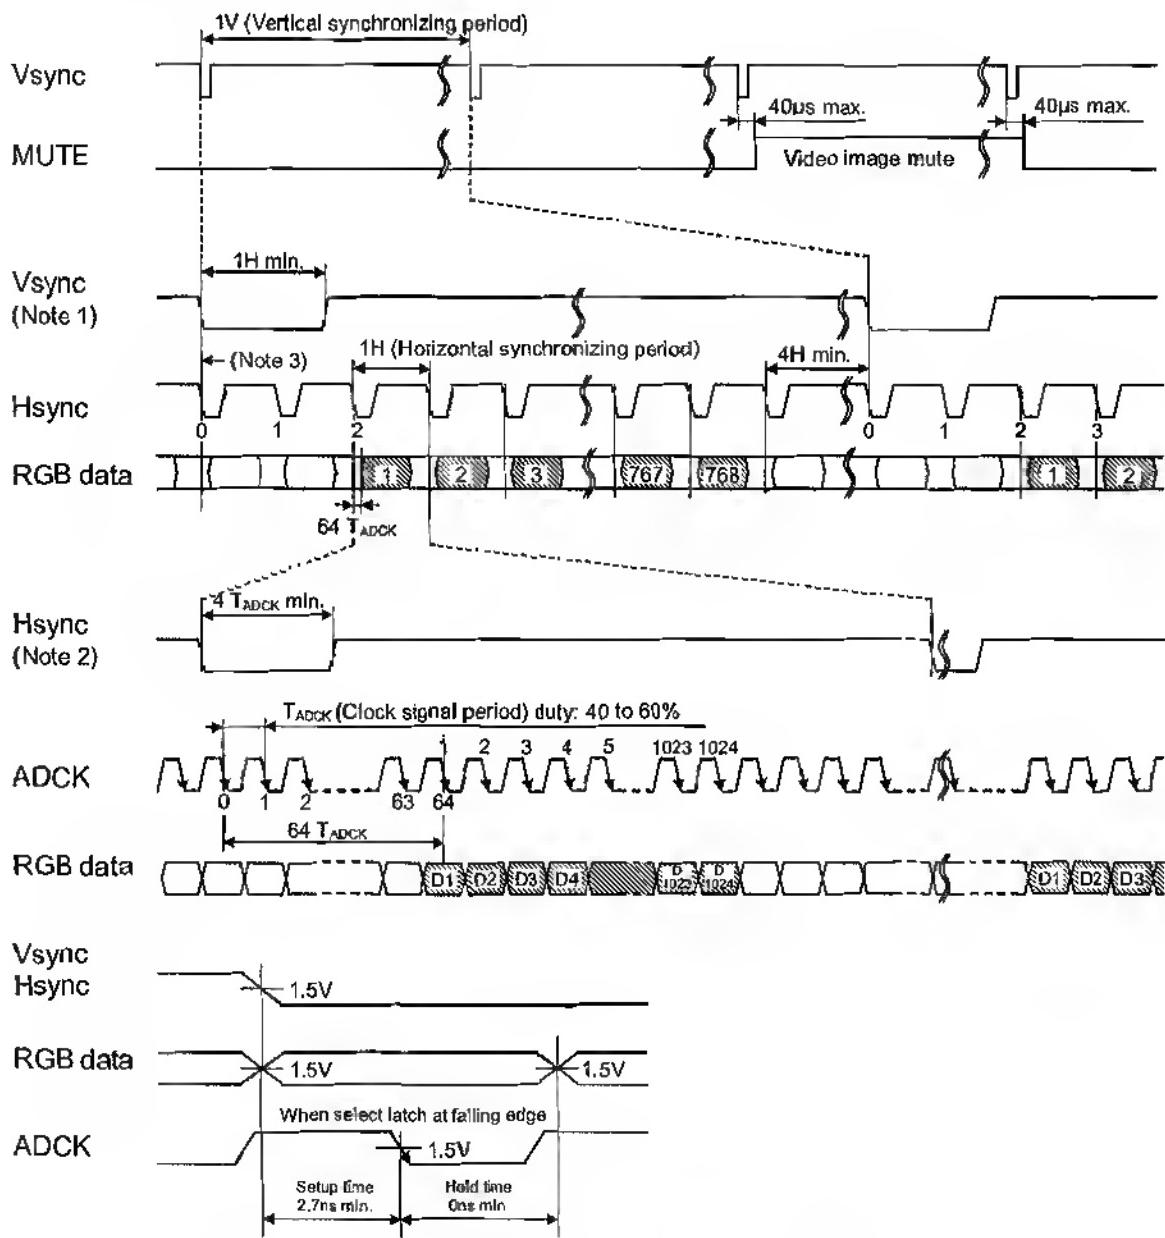

Figure 11. Input timing of LVDS transmitter DS90C387
- Note 2: Falling transitions of Hsync and Vsync should be taken into the LVDS transmitter synchronizing within the same ADCK timing (refer to figure 11).